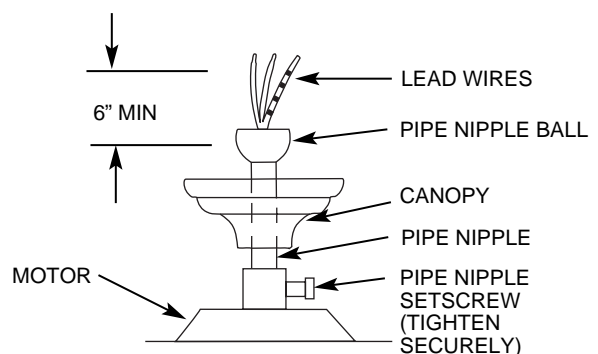

FIGURE 5B
A. Insert pipe nipple through canopy and feed wires from top of motor through pipe nipple. Screw pipe nipple into fan until tight (at least $4\frac{1}{2}$ turns). The setscrew locking the pipe nipple to motor must be tightened very securely. See Figure 5B. Failure to tighten screw could result in fan falling.